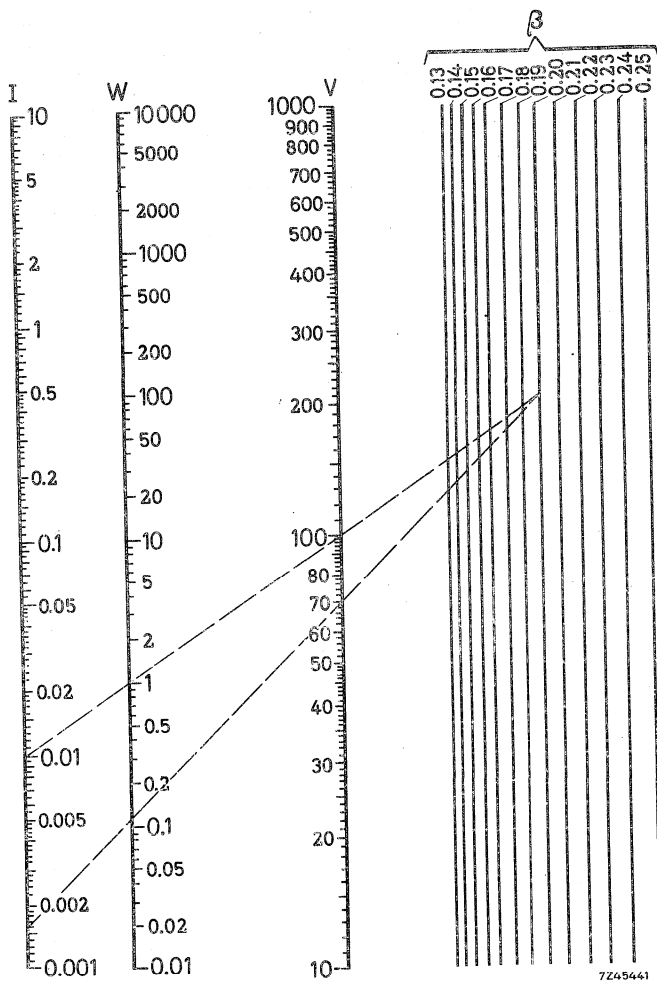

Fig.3.
To avoid cumbersome calculations with broken exponents eq. (1) is elaborated into a nomogram, Fig.3, which gives by a simple construction the corresponding values of voltage and current for any given VDR.
According to formula (1) it is possible to specify the electrical characteristics of a VDR resistor by giving its C- and β -values. The advantage of this specification is that only two parameters are used. The disadvantage is, however, that due to the inevitable tolerances on the β -values, the spread in voltages at low currents (in the working area) becomes very large. It is for this reason that the method of specifying by the C-value defined at 1 A is abandoned and we now specify the voltage across the VDR at currents which lie in the working area (1, 10 or 100 mA instead of 1 A). In this way it is possible to supply VDR's which have much closer tolerances in the area where they are used, see Fig. 14. In theoretical calculations it is much easier, however to use the C-value. Therefore the formula $V = CI^\beta$ is used. When a calculation leads to a certain C-value, the voltage at currents of 1, 10 or 100 mA can be found with the aid of the nomogram (Fig. 3).